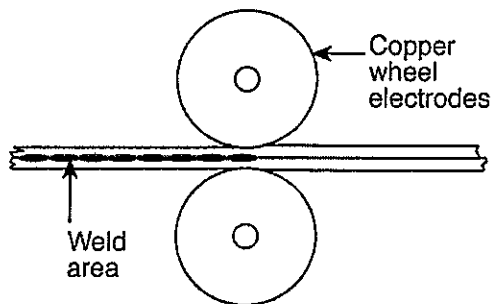

Figure 2
- (a) What is the name of the welding process shown in Figure 2? Do you need to use shielding gas in the welding process? Is this a fusion welding process or solid-state welding process? Give your reasons.